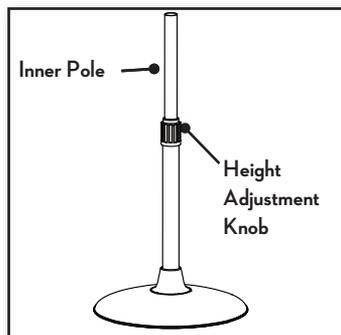

Figure 9
5. Grasp the telescopic pole firmly and twist the adjustment knob counter clockwise to loosen. Figure 9.
6. Raise the inner pole to maximum height and tighten the height adjustment knob by twisting clockwise until secure. Figure 9.